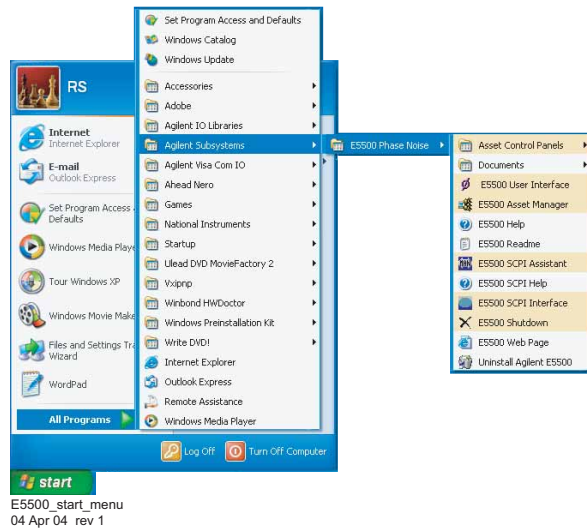

Figure 19 Navigate to E5500 user interface
- 3 Using Figure 19 as a guide, navigate to the **E5500 User Interface**.